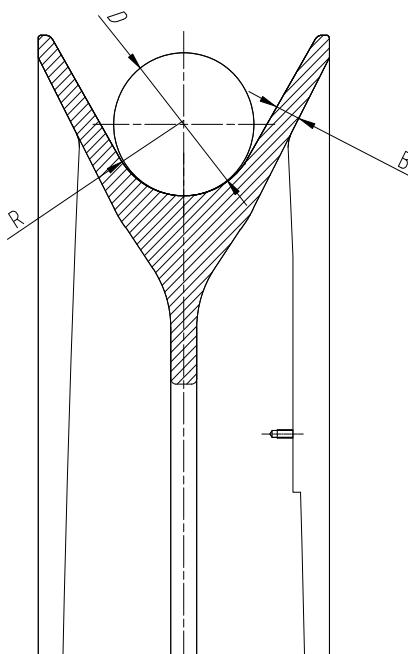

Figure 7-108: Sheave dimensions
- If the groove radius R (see Figure 7-108) is larger than 19.9 mm, replace the sheave.
- If the groove breadth B (see Figure 7-108) is less than 14.3 mm, replace the sheave.